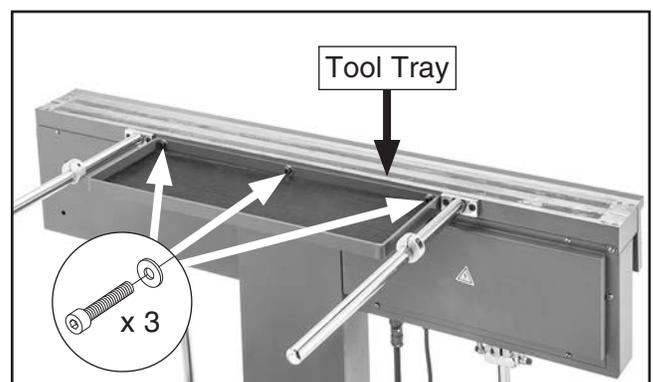

Figure 17. Tool tray attached to brake with cap screws.
4. Attach tool tray to back of brake between backstop bars using (3) pre-installed cap screws and flat washers (see **Figure 17**).